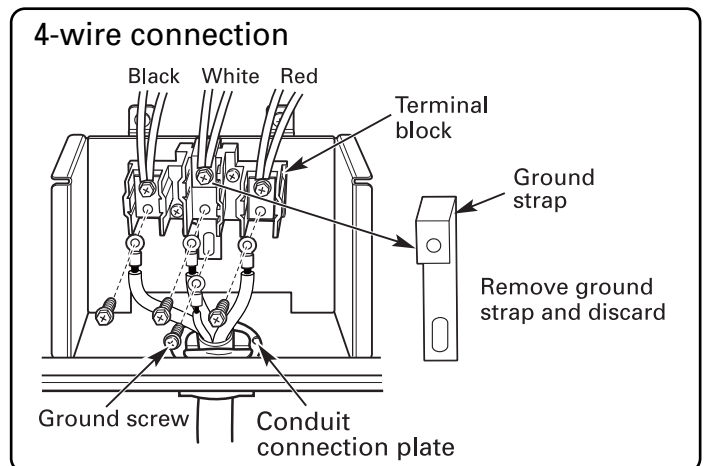

FIGURE 7
1. Remove the lower 3 screws from the terminal block and retain them. (Refer to Figure 7.)
2. **Remove ground strap and discard as shown in Figure 7.**